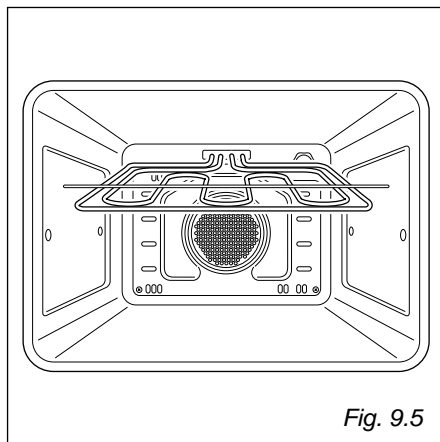

Fig. 9.5
The grill is secured to the rear wall of the oven on a hinge system that allows it to be lowered to allow proper access when cleaning the oven ceiling (fig. 9.5).
- Removing the sliding shelves improves access to the oven ceiling for cleaning (after the grill heating element has been lowered - fig. 9.5).